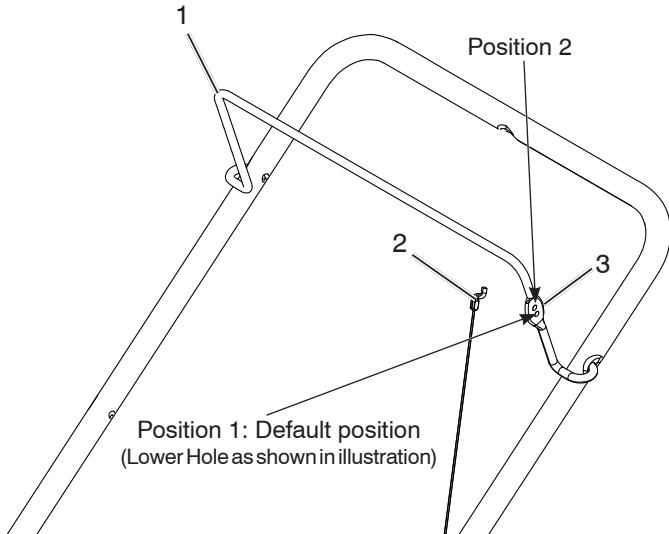

Figure 21
- With the control bar disengaged, unhook and move the control cable to the highest position. (Figure 21).